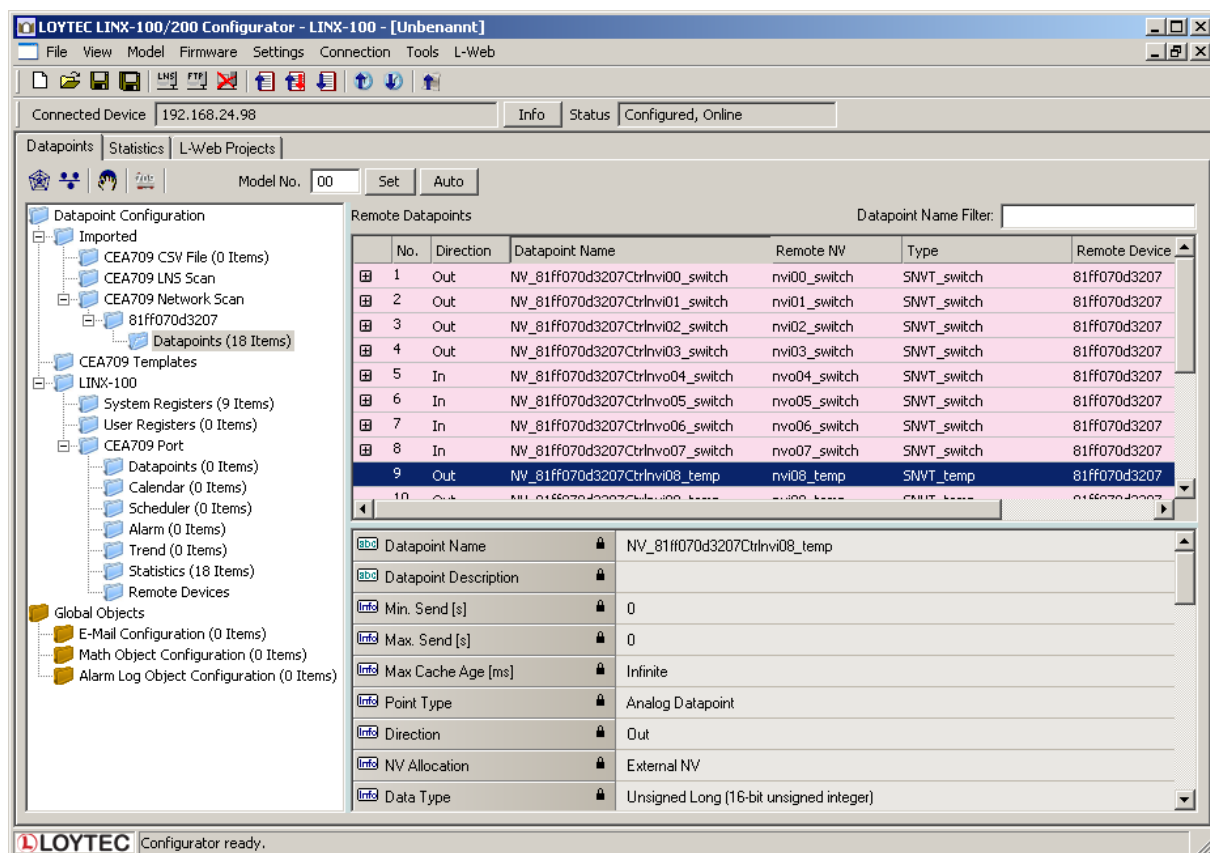

Figure 140: CEA-709 network scan results.
9. Then click the button **Scan**. This scans the NVs on the selected device and adds them to the CEA709/852 Network Scan folder as a separate sub-folder for the device as shown in Figure 140.